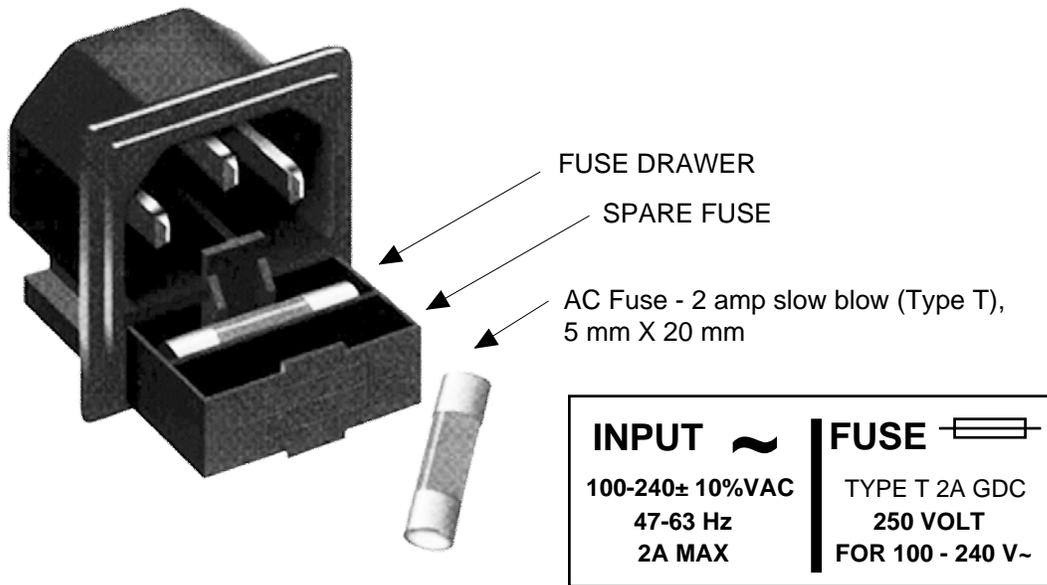

FIGURE 2.3 Fuse Location and Spare Fuse
5. AC Fuse - The fuse is a 5 mm X 20 mm, 2 amp slow blow (Type T) and is inserted in the far slot in the drawer below the AC input as shown in Figure 2.3. There is a spare fuse in the near slot. If a fuse continues to open, the power supply is most likely defective.